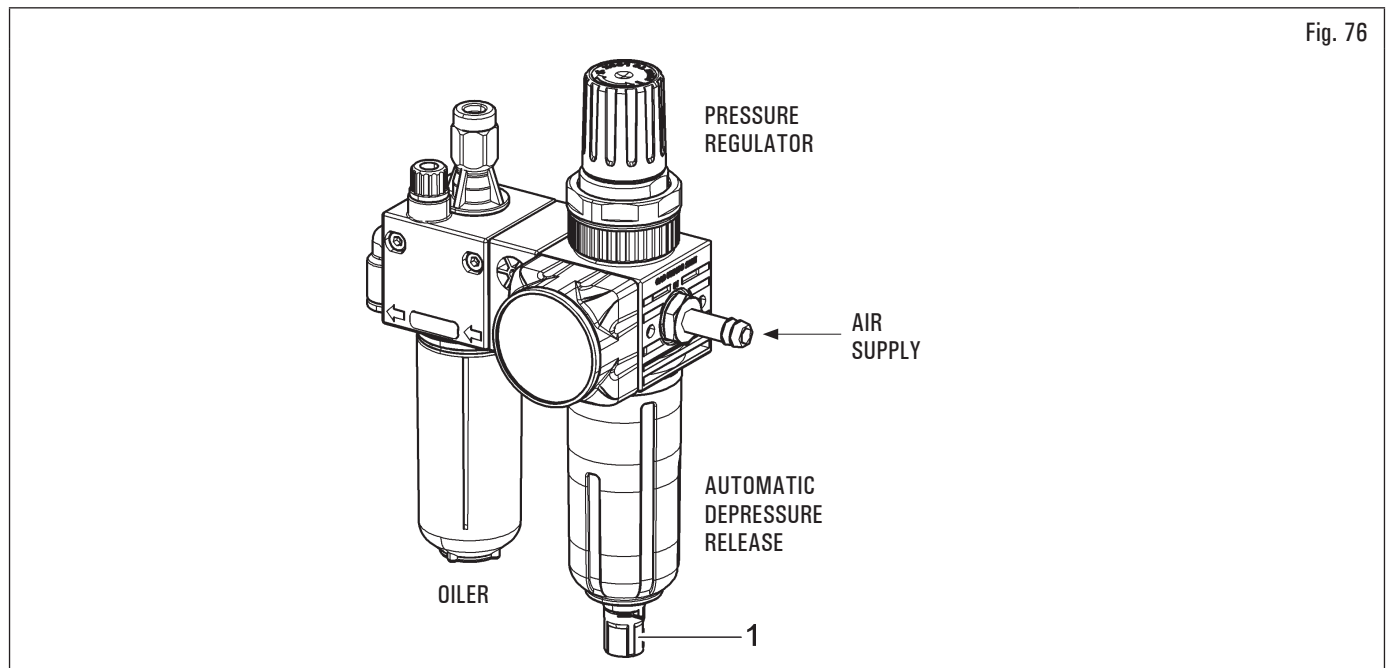

Fig. 76
- The conditioning assembly is equipped with an automatic vacuum-operated drain therefore it requires no manual intervention by the operator (see Fig. 76).
In order to ensure a good functioning and to avoid the presence of condensation in the air treatment assemblies with semi-automatic drain, it's necessary to make sure about the correct position of the valve (Fig. 76 ref. 1), placed under the cap. To activate a correct drain function, the cap must be rotated in the right way.